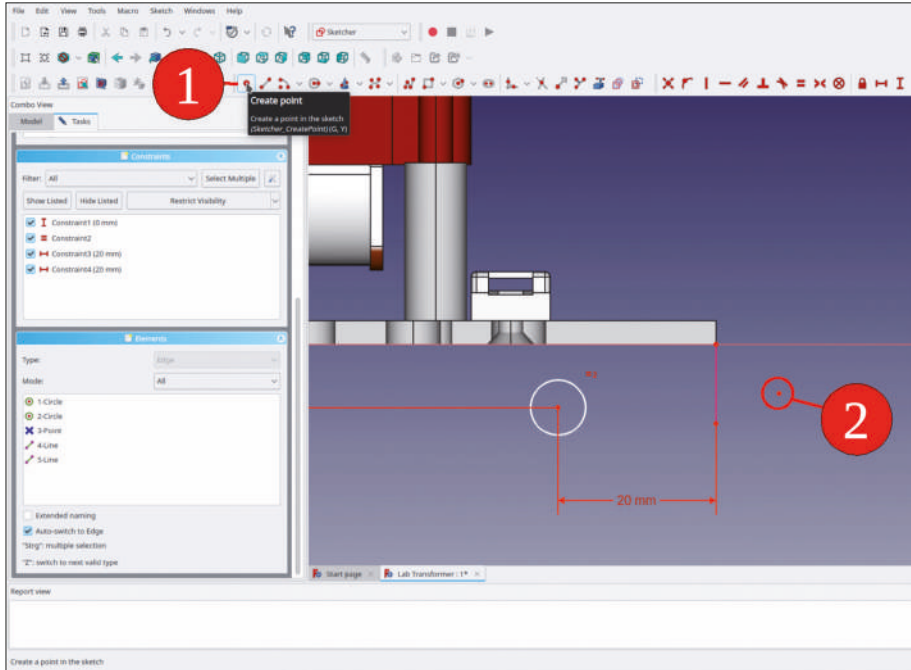
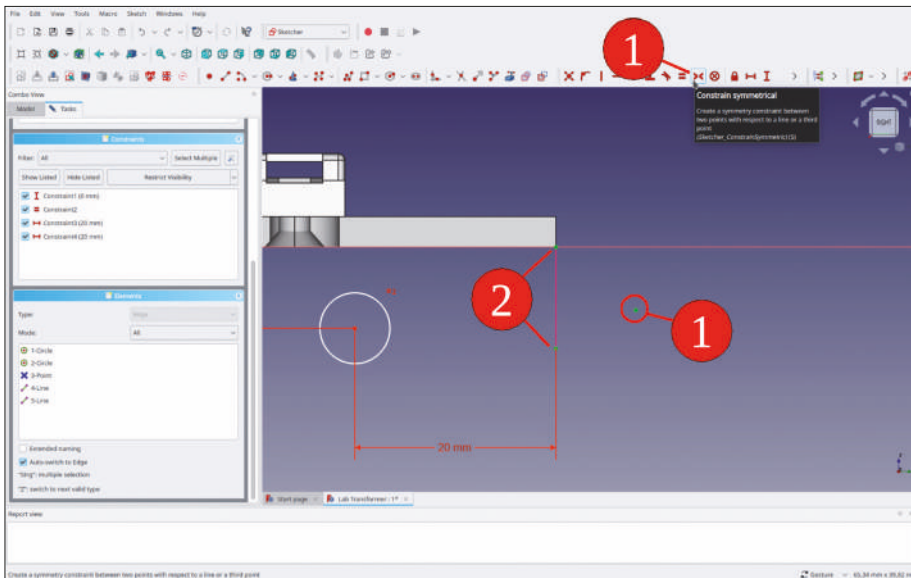

Figure 9-127
Figure 9-128
35. Draw a point (Figure 9-127). Mark the point and the closest construction line. Then, click the 'Constrain symmetrical' tool button (Figure 9-128).